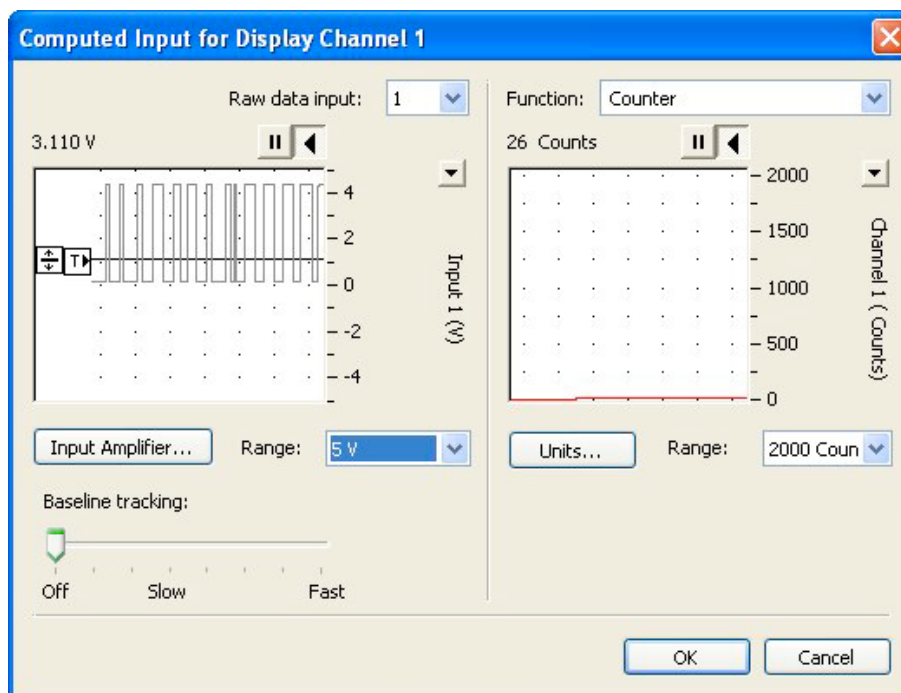

Figure 6.12 Adjusting the count threshold
- 6.4.9** Carefully open the stop cock of the burette so a steady stream of drops ($\sim 1 - 2/s$) fall past the sensor of the drop counter into the beaker. Adjust the threshold slider of the Computed Input dialog of Channel 1 to a position which intersects with the drop counter signal when a drop passes through the sensor (**Figure 6.12**). The Drop counter has an output voltage of approximately 4 V, which drops to 0 V as the drop passes through the sensor. Click on OK to return to the main Chart window.